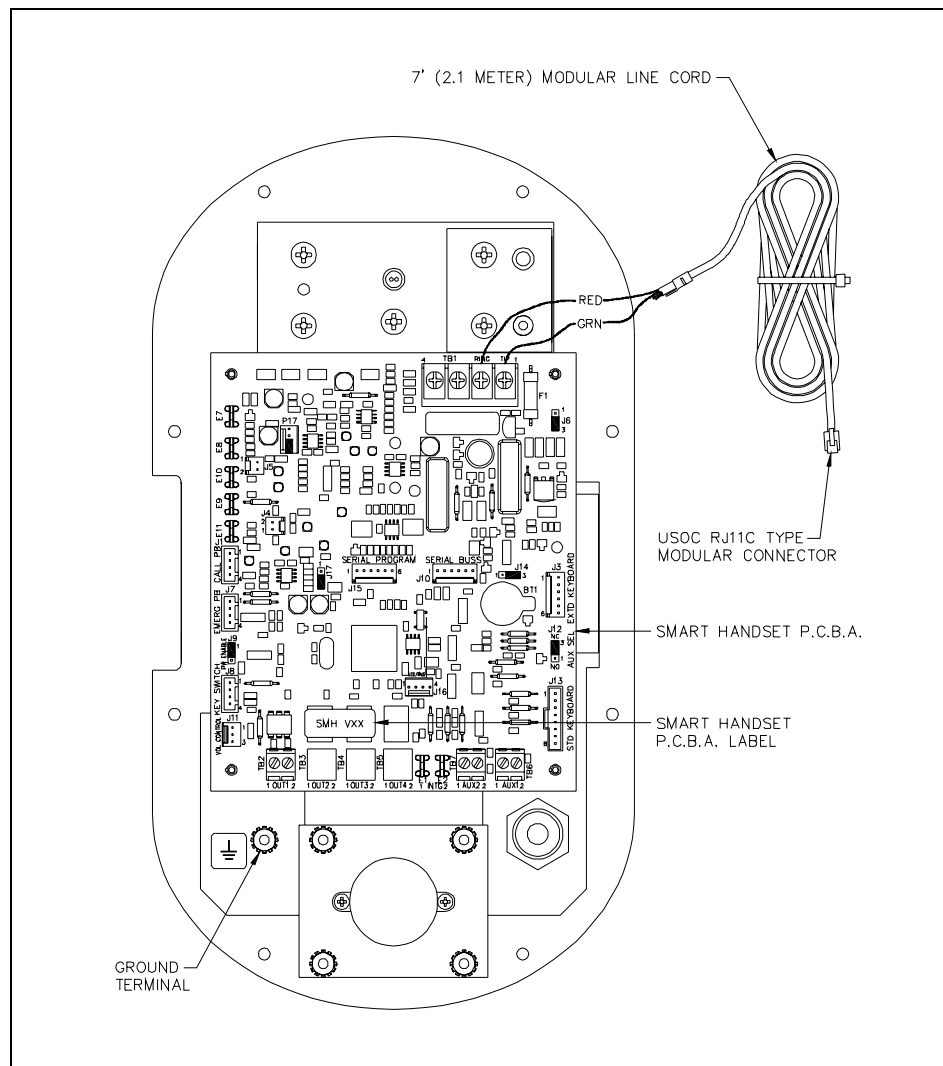

Figure 1. PCBA Connections for Models 226-003 and 227-003
1. Align the holes of the new PCBA with the snap-on nylon standoffs in the telephone, maintaining proper orientation. See Figure 1.